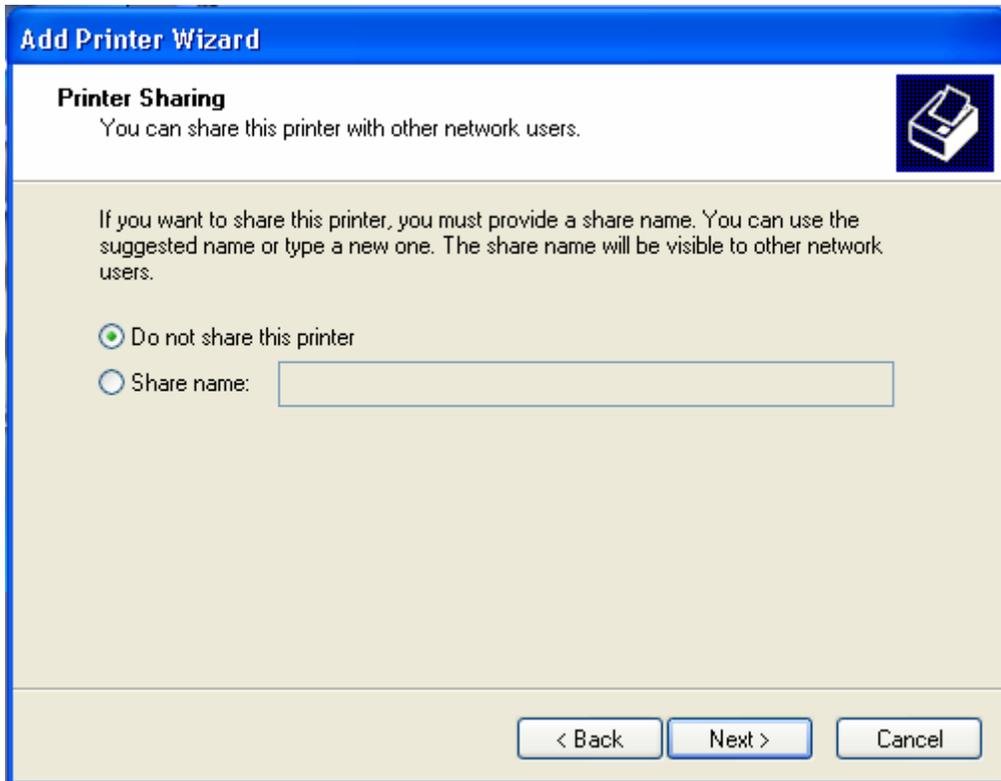

Fig. 4-12 Print Driver Installation
STEP 13: Select **Do not share this printer** and click **NEXT STEP** (see fig. 4-12)